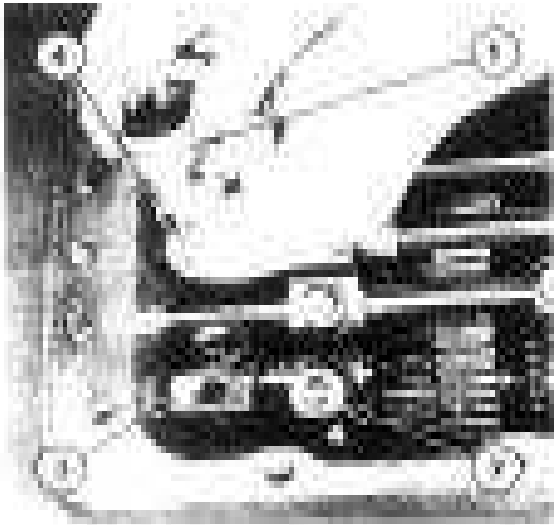

Figure 7
3. "Unscrew the safety start switch. Place a clean cloth beneath the safety start switch actuator housing and slide the actuator housing from the high/low shift rail. Take care to ensure the ball, spring and actuating dowel are collected from within the housing and rail, Figure 7.